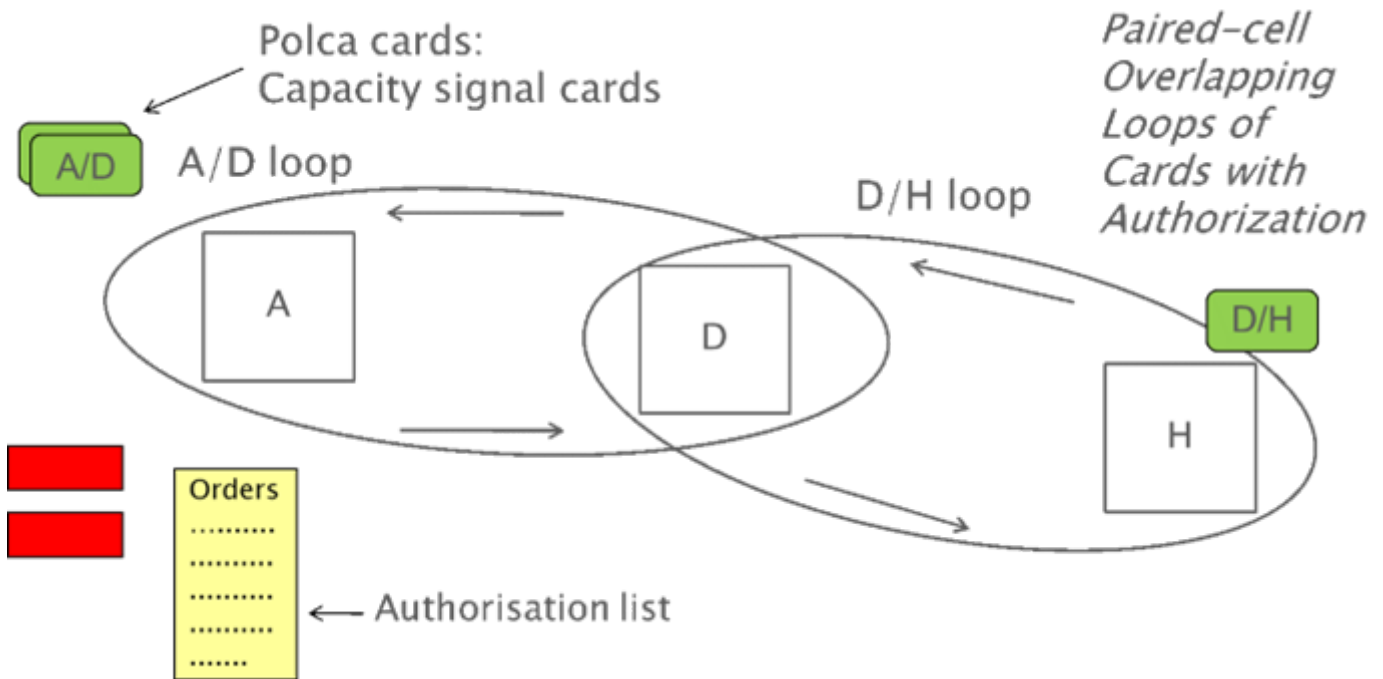

Figure 1 Two overlapping POLCA loops with POLCA cards
- **Pull signal**: POLCA controls this by means of an ingenious system in which cards circulate between overlapping loops. Two successive work stations in a routing form a loop together (the ellipses in Figure 1). A limited number of POLCA cards circulate in each loop.
That card is then available for a subsequent order. The last station can always start and needs no card. At the intermediate stations (like D in figure 1) two cards are attached to the order: an A/D card and a D/H card. At the first and the last station only one card is attached.